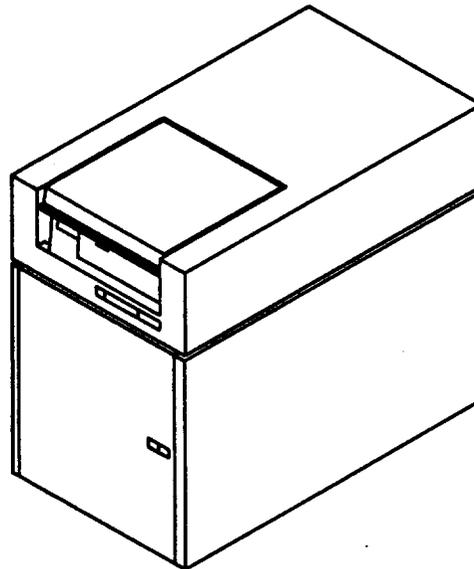

Figure 2. KS-22072, L1 Moving Head Disk Drive
2.05 Figure 2 illustrates the KS-22072, L1 disk drive.